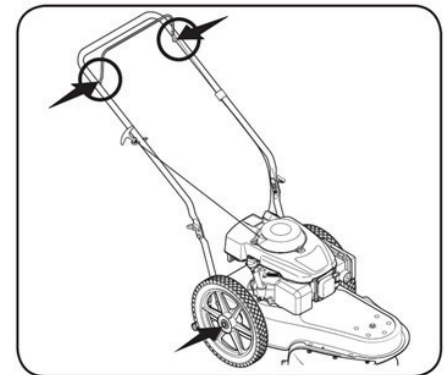

Figure 4-1
1. Lubricate pivot points on the throttle handle at least once a season with light oil. This control must operate freely in both directions. See Figure 4-1.
2. Lubricate the wheels at least once a season with light oil (or motor oil). If wheels are removed for any reason, lubricate surface of the axle bolt and inner surface of the wheel with light oil. See Figure 4-1.